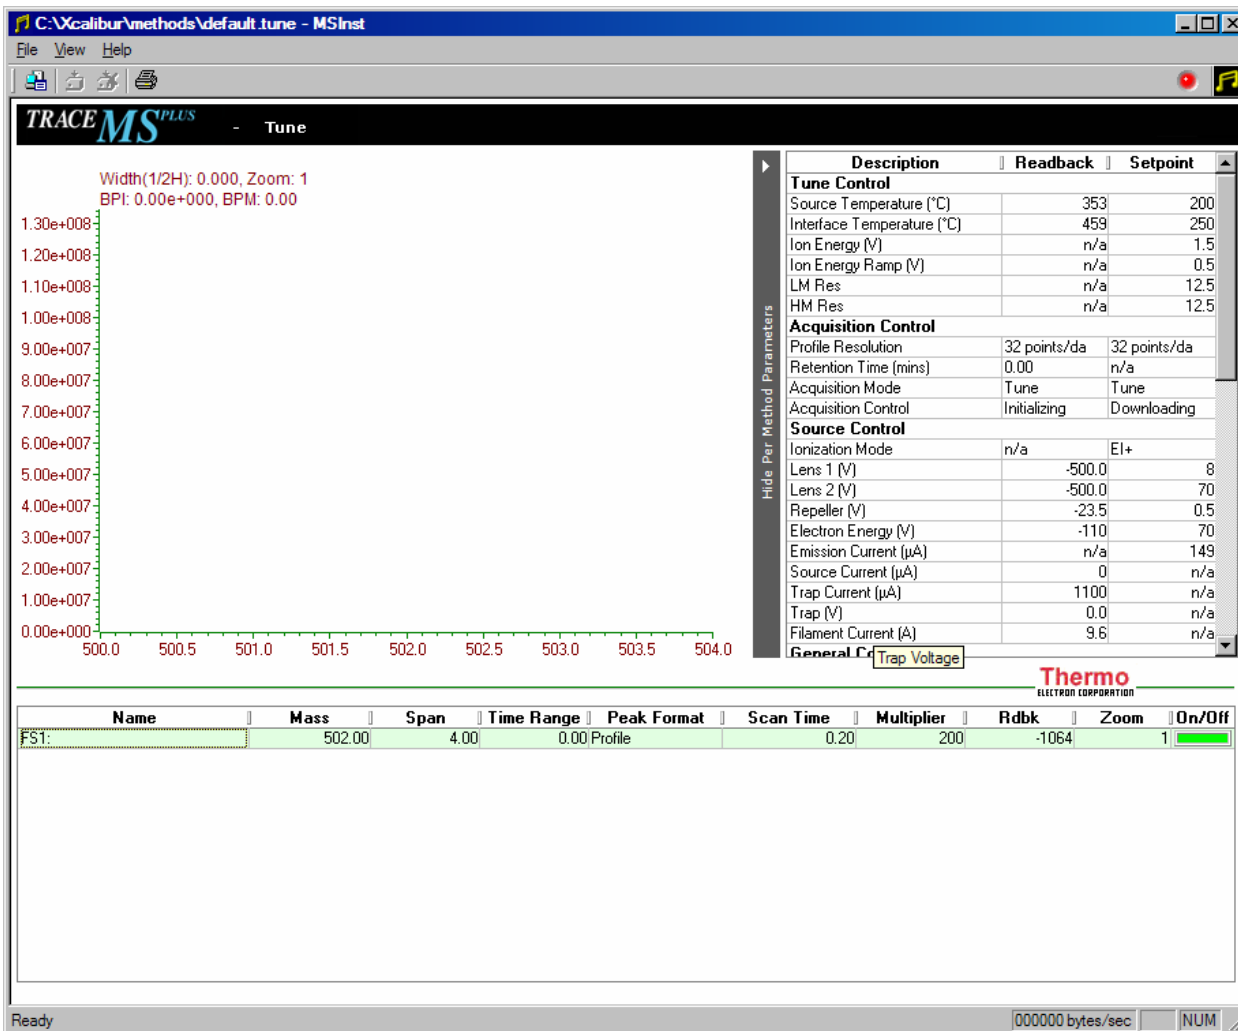

Figure 1 (Initial Tune Parameters)
- 3.3.17** Set parameters as following: (See Figure 1)
- Ion Energy (V): 1.5
- Ion Energy Ramp (V): 0.5
- Lens 1 (V): 8
- Lens 2 (V): 70
- Repeller (V): 0.5
- Emission Energy (V): 70